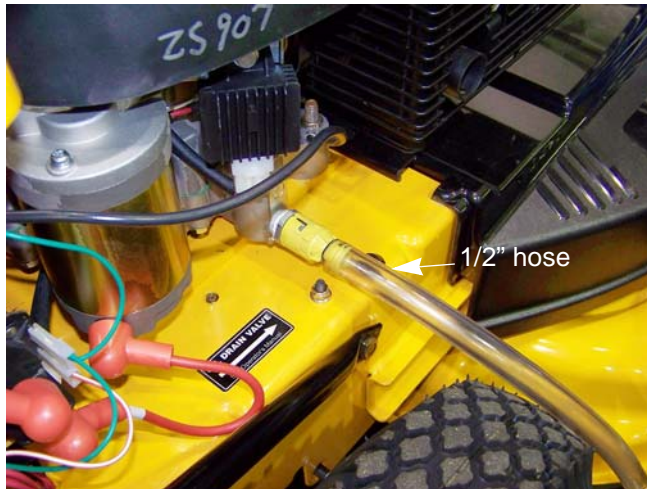

Figure 1.6
3. Slide a piece of 1/2" hose onto the drain. See Figure 1.6.